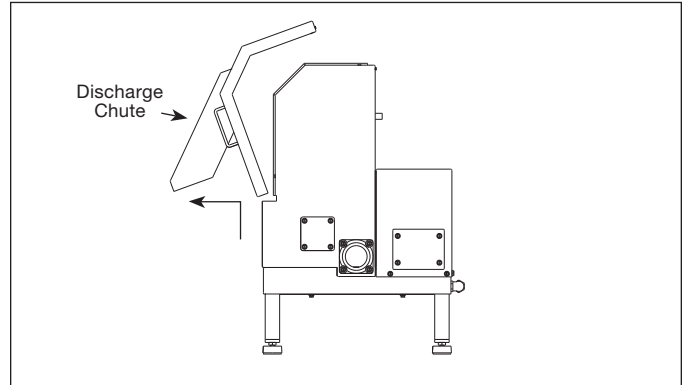

Figure 25.
2. Holding both handles remove discharge chute by tilting it upward (see Figure 25).